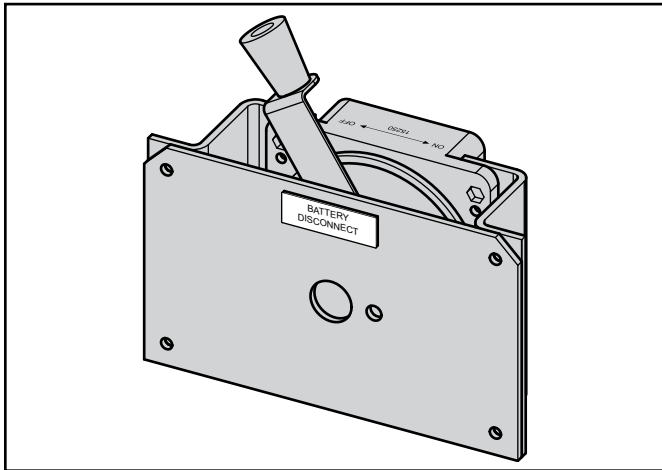

Figure 2. Battery ON/OFF Switch
2. Turn off the battery ON/OFF switch. See Figure 2.